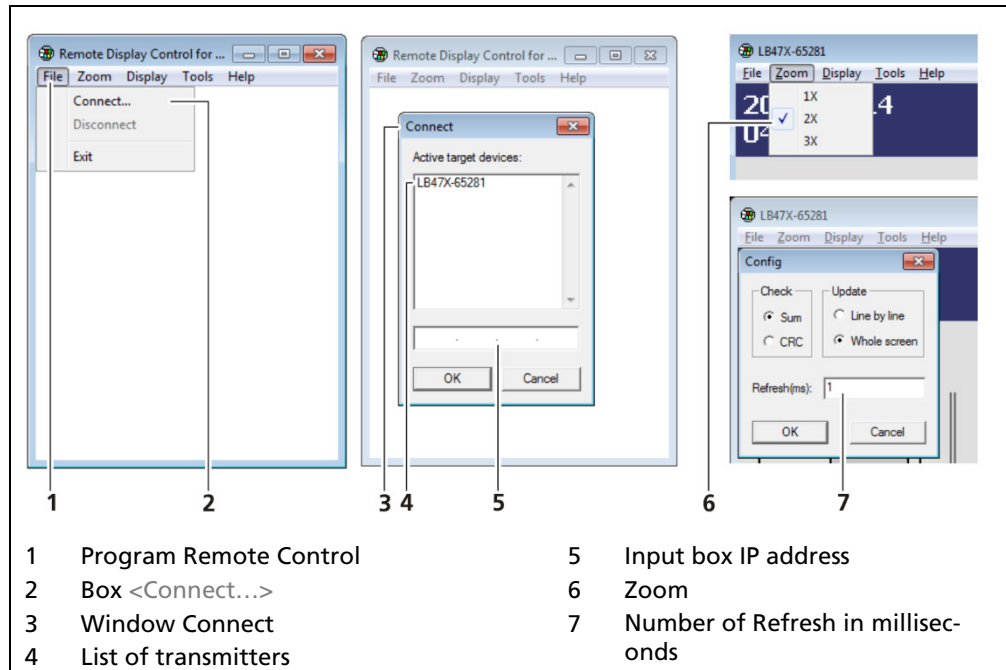

Fig. 39 Establishing connection to the EVU using the RC software
You can set the network address either manually or using DHCP (automatic assignment). To do this, check the "DHCP active" in the selection field (Fig. 39, item 1).
In the event of an automatic assignment of the IP address by a DHCP server, you can only look at the given IP address. A modification of the IP address is not possible. On this side, you can also read the MAC address of the device (Fig. 39, item 6).
1. Click on the text field (Fig. 39, item 2-5) to open the input field.
4. Click on <Apply> (Fig. 39, item 7) to adopt the network settings.
The IP address of the EVU must be in the same sub-network (Fig. 39, item 3) as the network adapter of the computer (see previous Chapter "Network").